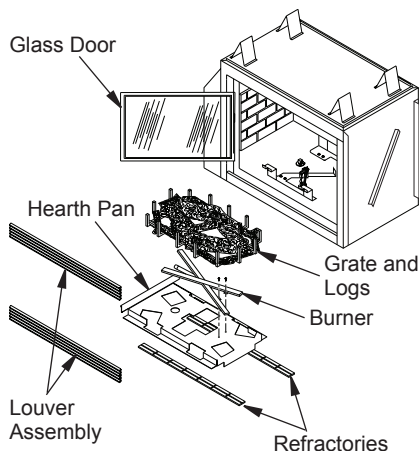

Figure 55 - Burner Removal
2. Carefully remove log set intact and set aside (see Figure 55).